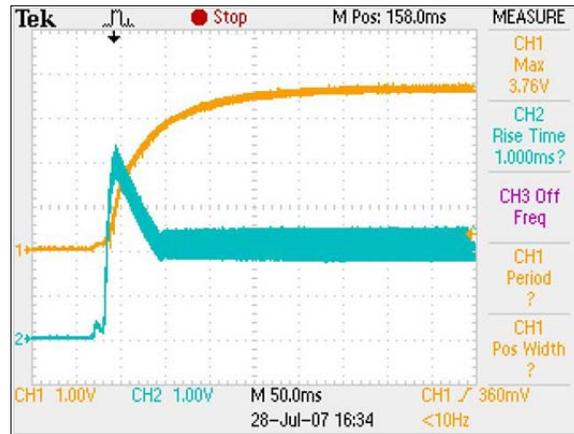

Figure 108: Incorrect kV-mA Rise Curve (Filament too hot)
- If the kV-mA rise curve appears as in Figure 108, then the filament may be too hot. If the red LED's have come on, reset the control board by